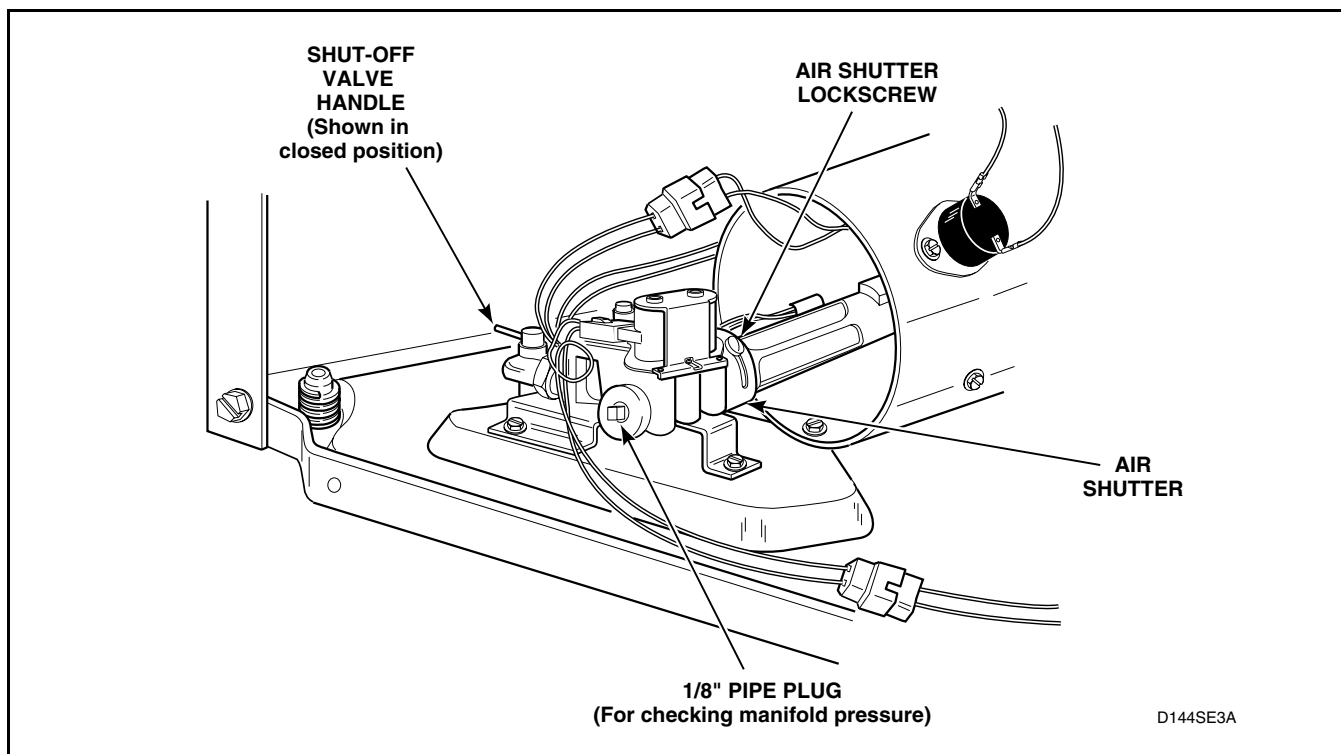

Figure 54
- (1) Metered Models - Place coins in slide and carefully push slide in as far as possible
- (2) Nonmetered Models - set timer at "50" minutes.
- e. Allow the dryer to operate for approximately five minutes, then loosen the air shutter lock screw. Refer to *Figure 54*.
- g. After proper flame is obtained, tighten air shutter lock screw firmly. Refer to *Figure 54*.